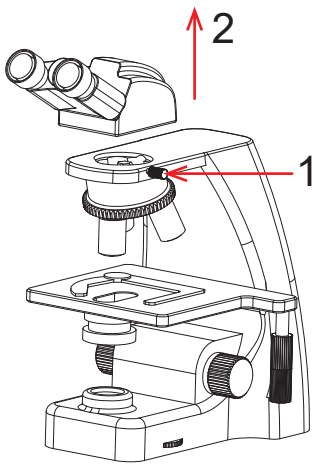

Figure 1
(1) Separate the objective end of the binocular microscope from the eyepiece end, as shown in Figure 1: